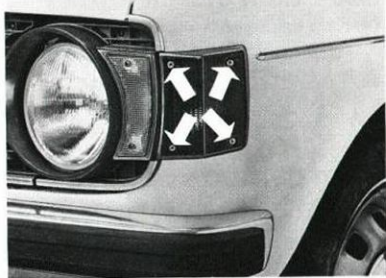

Fig. 3-135. Removing flasher light glass
2. Remove the light glass, see Fig. 3-135.